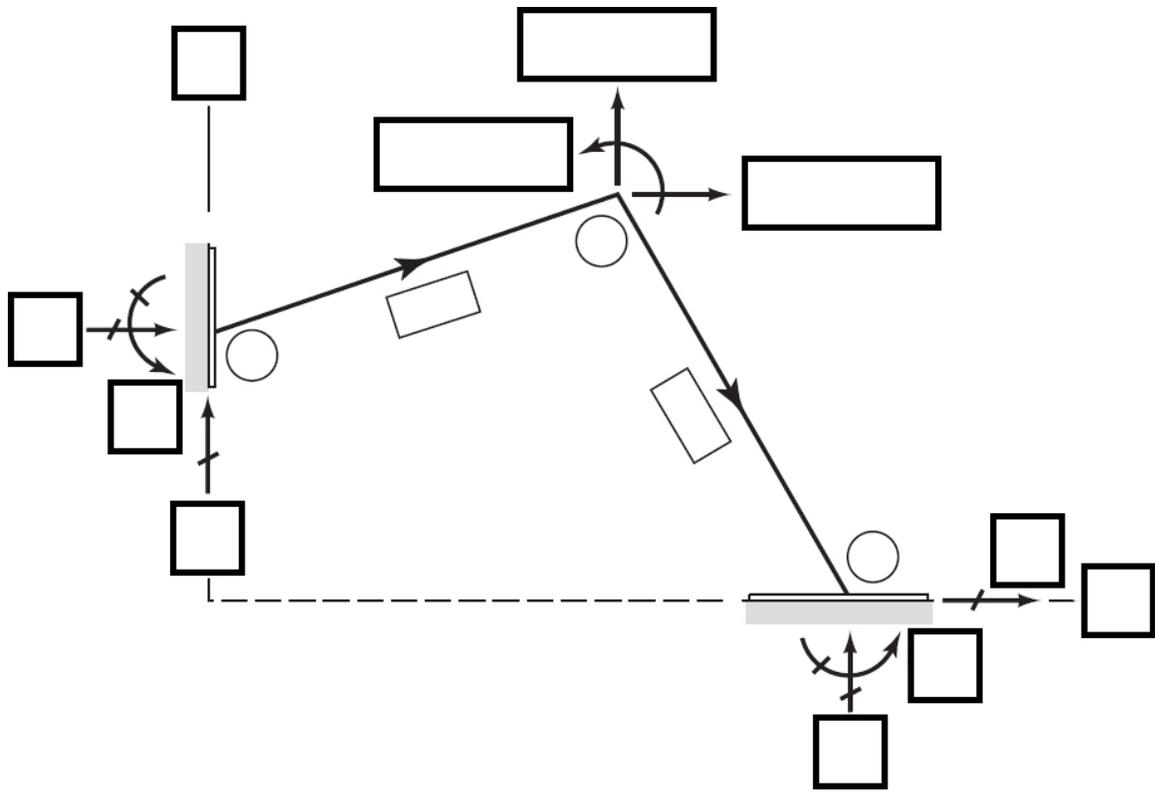

Figure 32. Discretization of example plane frame.
- a. This frame has ____ degrees-of-freedom, as illustrated in Figure 32.